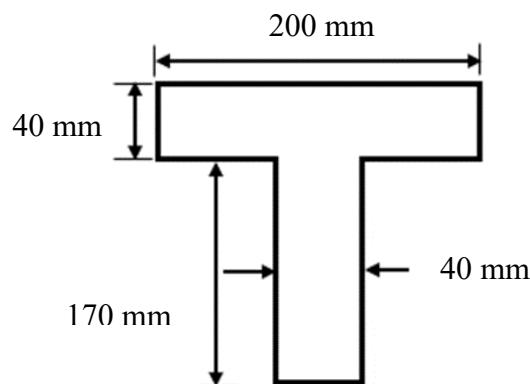

Figure A2(a) / Rajah A2(a)
- (a) i. Figure A2(a) shows a T-section beam. Identify the centroid of the section at y-axis and x-axis.